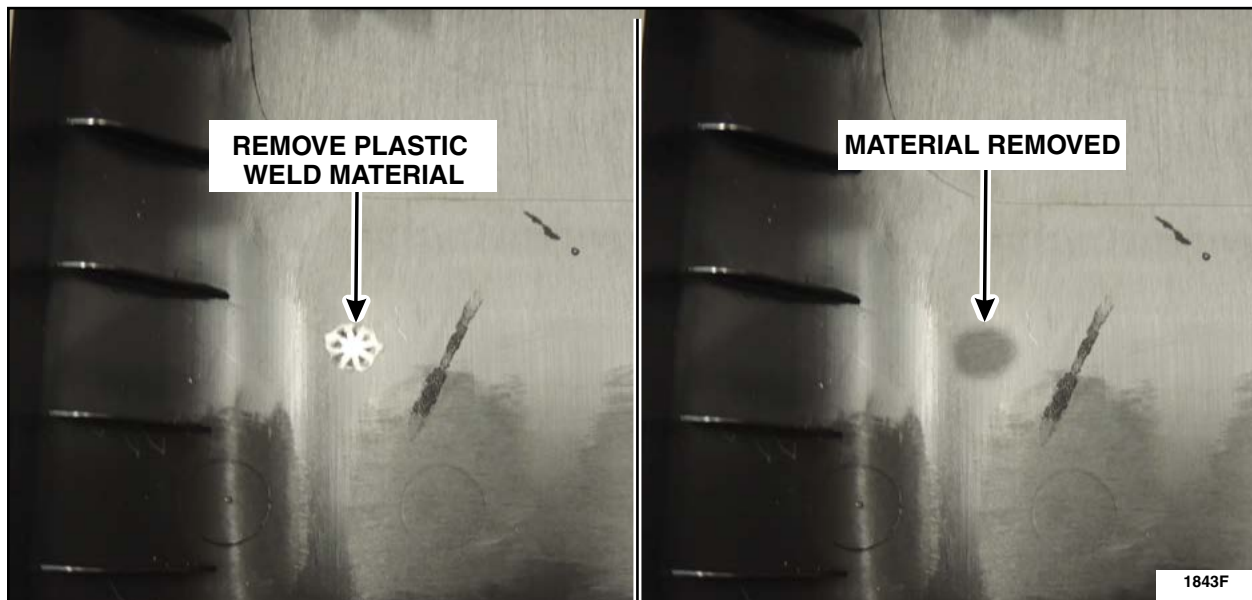

FIGURE 20
2. Lightly use a die grinder with abrasive pad to remove any remaining cloth material from all of the plastic welds. See Figure 20.